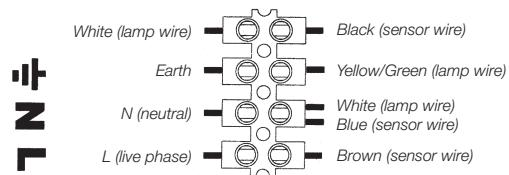

Fig. 2B
- Remove the cover of the junction box, remove the cable gland and strain relief, feed in the power cable (3G 0.75) through the gland and rubber grommet. Connect the three wires of the cable to the terminal block (Fig. 2B).